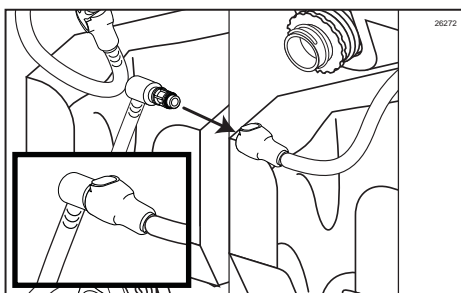

Figure 70
18. Connect the Pump Flush Adapter assembly to the Syrup Bag Connector. (See Figure 70.)